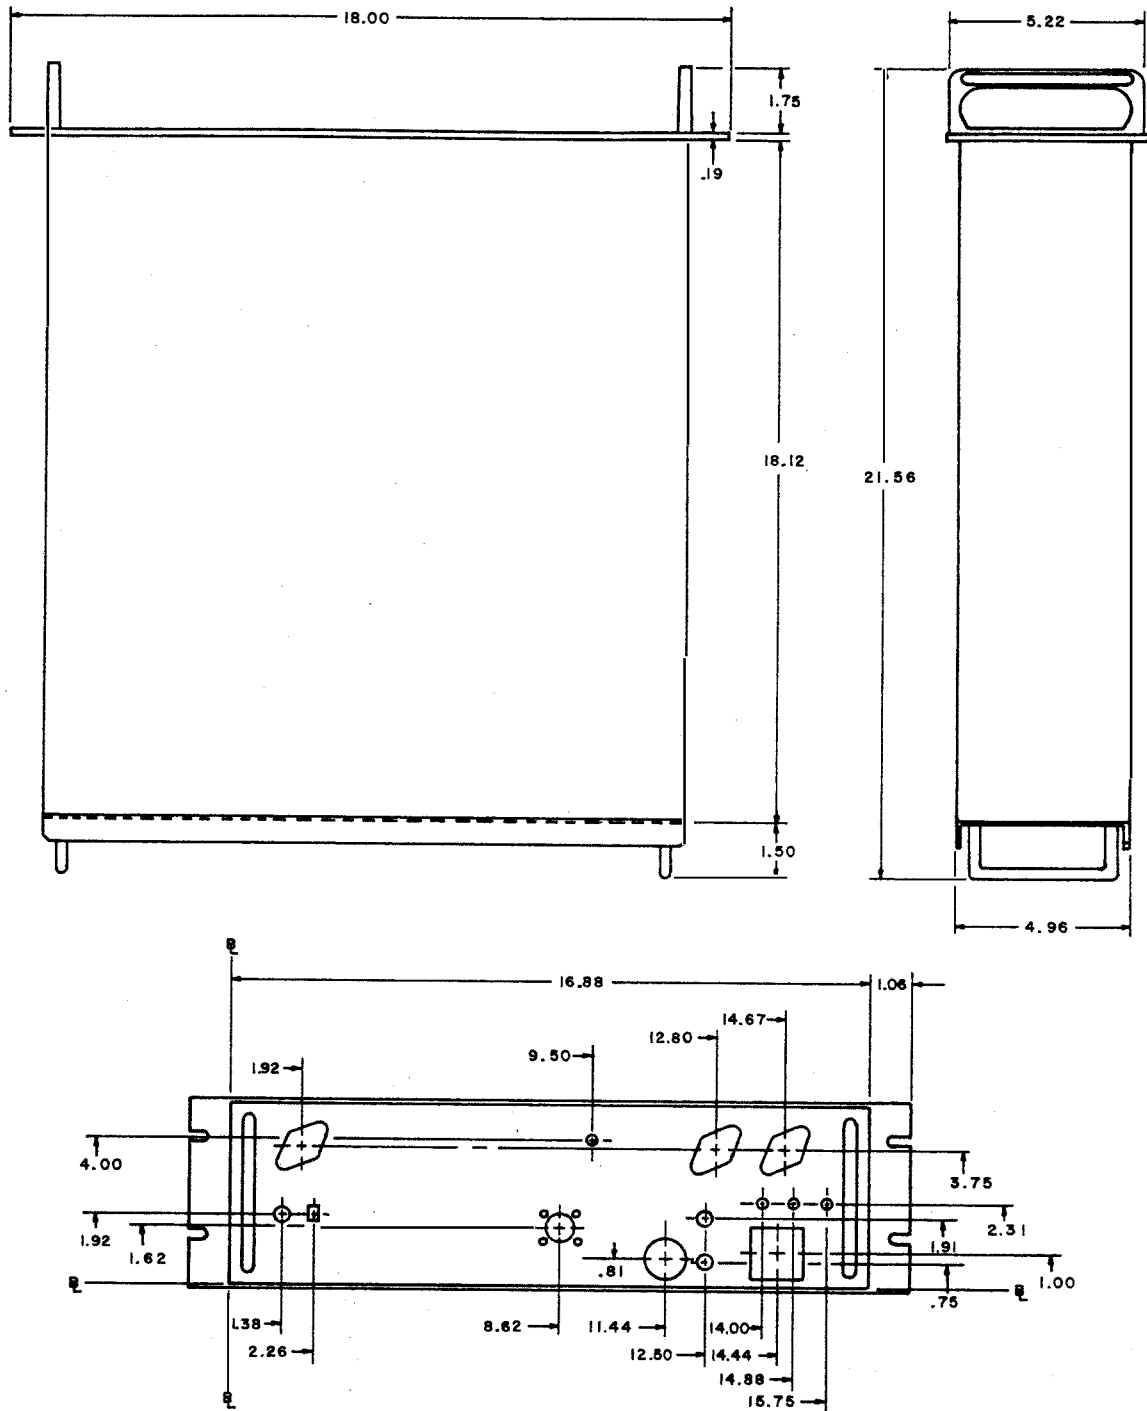

Figure 8-1. AN/URR-74(V)2 Radio Receiver, Critical Dimensions
**8-1. INTRODUCTION.** This chapter describes the procedures necessary to ensure proper installation of the AN/URR-74(V)2 radio receiver, as well as unpacking/repacking information, installation inspection requirements, and initial turn on and test procedures. Figure 8-1 gives the critical dimensions of the unit and figure 2-2 identifies all rear panel connectors.
**8-7. INSTALLATION PROCEDURES.** No assembly of the receiver is necessary as it is shipped as a complete unit. Figure 8-1 gives the critical dimensions of the unit. Internal selections for the AC line voltage and both the Line Audio and ISB Audio output attenuators should be made before mounting the receiver in the rack. The receiver may be operated from either 115 Vac or 230 Vac,  $\pm 15\%$ , line voltage. Each of the attenuators may be switched ON or OFF, as required. Refer to table 1-1 and paragraph 2-2.b.(5), for the Line Audio and ISB Audio output characteristics with the Attenuators ON or OFF.